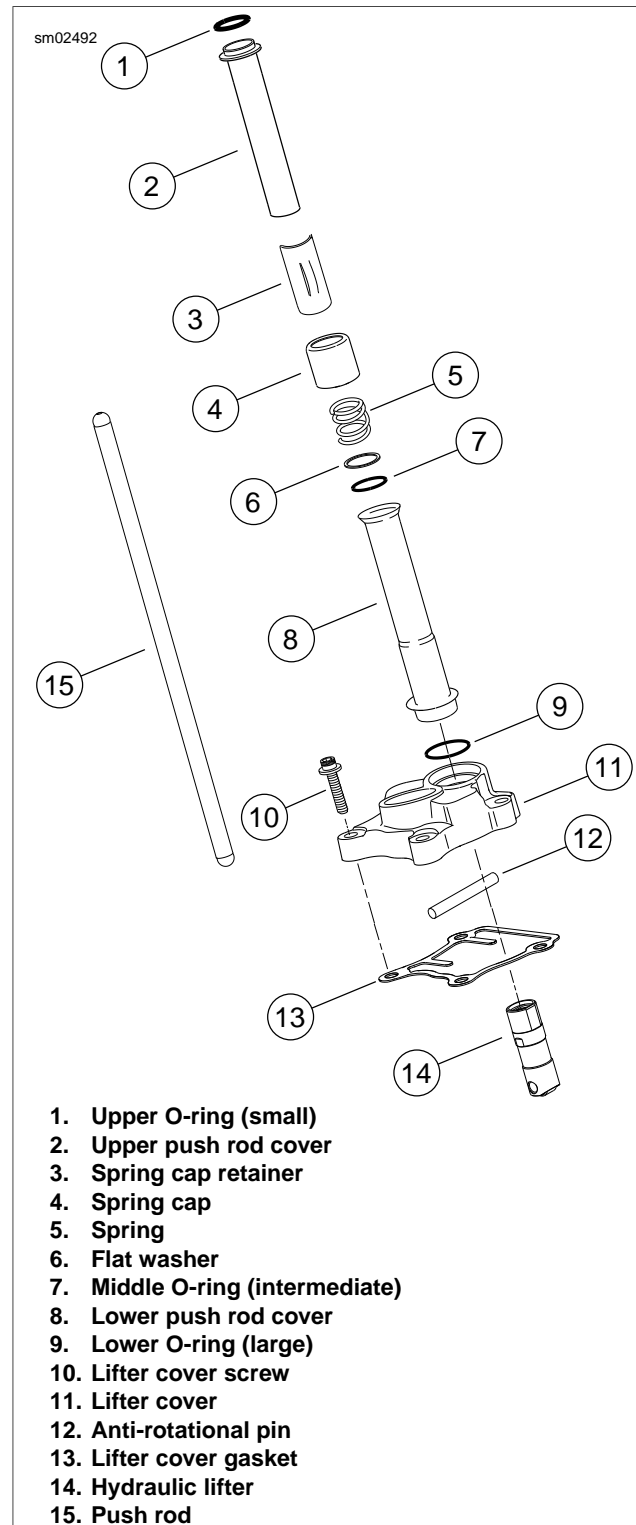

Figure 3-83. Push Rods, Lifters and Covers
See Figure 3-83. With the exception of the lifter covers, all parts should have been disassembled and marked during the removal procedure. Disassemble the lifter covers as follows:
1. See Figure 3-83. Scrape old gasket material from the lifter cover (11) flange. Old gasket material left on mating surfaces will cause leaks.
2. With the exception of the hydraulic lifters (14), clean all parts in a non-volatile cleaning solution or solvent. Verify that the o-ring seats and contact surfaces of the push rod covers (2, 8) are completely clean.